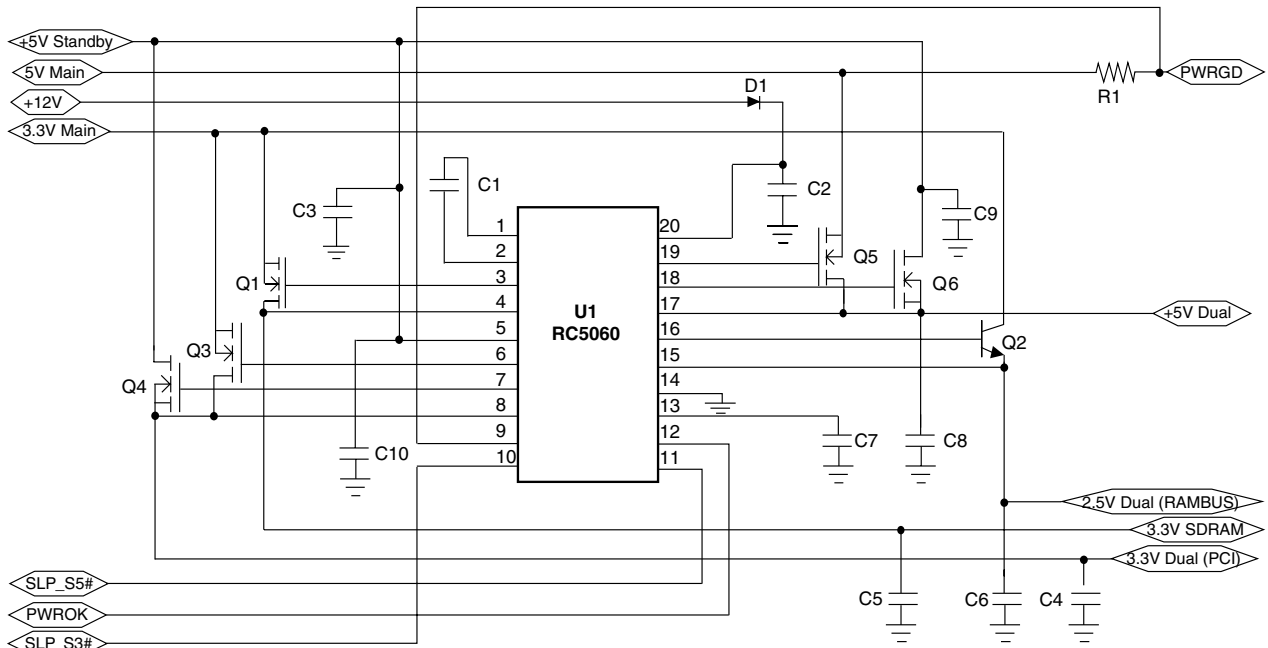
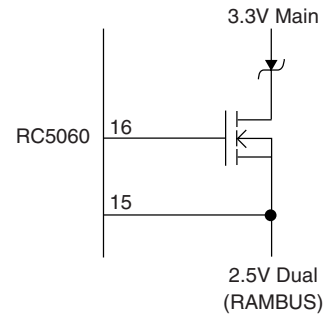

Figure 4. Camino ACPI Selector
Figure 8. 2.5V Dual with MOSFET
($V_{+5VSTBY} = V_{+5VMAIN} = 5V$, $V_{+3.3V} = 3.3V$, $V_{+12V} = 12V$ and $T_A = +25^\circ C$ using circuit in Figure 4, unless otherwise noted.)
($V_{+5VSTBY} = V_{+5VMAIN} = 5V$, $V_{+3.3V} = 3.3V$, $V_{+12V} = 12V$ and $T_A = +25^{\circ}C$ using circuit in Figure 4, unless otherwise noted.)
5V dual is generated by two MOSFET switches, one from +5V main, the other from +5V standby, as shown in Figures 4 or 5. When main power is present, the first switch is on and the second off, and the opposite when main power is absent. Note carefully the polarity of the MOSFET Q5 that delivers power from the +5V main to the 5V dual: opposite to the connection of Q6, the source is connected to the +5V main input, and the drain is connected to the 5V dual output. This connection must be done this way because of Q5's body diode. When +5V main is not present, 5V dual is still on, and if Q5 were connected with the same polarity as Q6, the dual voltage would conduct through the body diode of Q5, attempting to power up the entire +5V main line. It is to avoid this overload that Q5 must be connected as shown.
3.3V dual is generated by two MOSFETs, one from +3.3V main, the other from +5V standby, as shown in Figures 4 or 5. When main power is present, the MOSFET Q3 is turned on as a switch, so that input and output are connected together. When main power is absent, the MOSFET Q4 is controlled by the RC5060 as a linear regulator, generating a regulated 3.3V from +5V standby. As with the 5V dual, the MOSFET Q3 must be connected as shown in the figures, to avoid back-feed.
3.3V SDRAM is generated by one external MOSFET switch from +3.3V main, and one linear regulator internal to the RC5060 from +5V standby, as shown in Figures 4 or 5, and in the block diagram on the front page. When main power is present, the MOSFET Q1 is turned on as a switch, so that input and output are connected together. When main power is absent, the internal linear regulator is on, generating a regulated 3.3V from +5V standby. As with the other duals, the MOSFET Q1 must be connected as shown in the figures, to avoid back-feed.
2.5V dual is generated by one external NPN bipolar acting as a linear regulator from +3.3V main, and one linear regulator internal to the RC5060 from +5V standby, as shown in Figure 4, and in the block diagram on the front page. When main power is present, the NPN Q2 linear regulates, and when main power is absent, the internal linear regulator is on. Q2 cannot be substituted with a MOSFET. If used in one direction, the MOSFET's body diode would permit back-feed; if used in the other direction, it would short-circuit the linear regulator action.
In main power operation, the RC5060 is run from the +12V main supply. This supply also provides voltage to the various MOSFET gates. However, during standby, this supply is off. To provide power to the chip and the appropriate gates, the RC5060 incorporates a free-running charge pump. As shown in Figures 4 and 5, and in the block diagram on the front page, a capacitor attached between pins 1 and 2 of the RC5060 acts as a charge pump with internal diodes. The charge pump output is internally diode or'ed with the 12V input. The 12V input must have a series diode to prevent back-feeding the charge pump to the +12V main when in standby. The 12V input line needs a bypass capacitor for high-frequency noise rejection.
Instead of the bipolar transistor shown in Figure 4 for Q2, the linear pass element for the 2.5V dual for RAMBUS, a MOSFET and schottky diode can be used as shown in Figure 8.